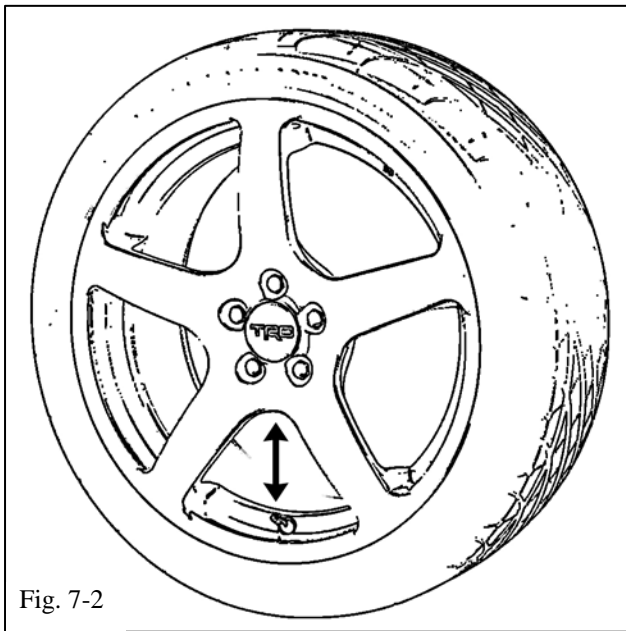
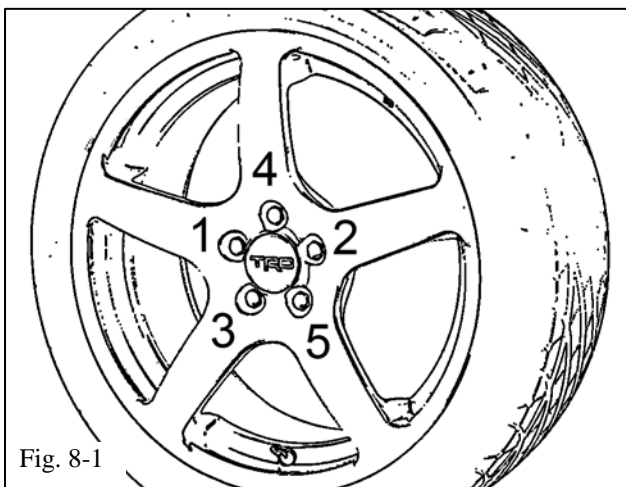

Fig. 7-2
Fig. 8-1
-  (a) Install wheel/tire assemblies onto vehicle. Hand start the provided lug nuts during installation. IF wheel locks are being added, install one wheel lock per wheel (not including spare) at the 12 O’Clock position, opposite valve stem (Fig 7.2). Tighten lug nuts in sequence 1 through 5 (Fig. 8-1). Ensure that the socket does not scuff the wheels.  **DO NOT USE** an Impact Gun to install Wheel Lock or damage may occur.  Air ratchets are OK. Tighten to **76 ft-lbf** (103 N-m) using a torque wrench.